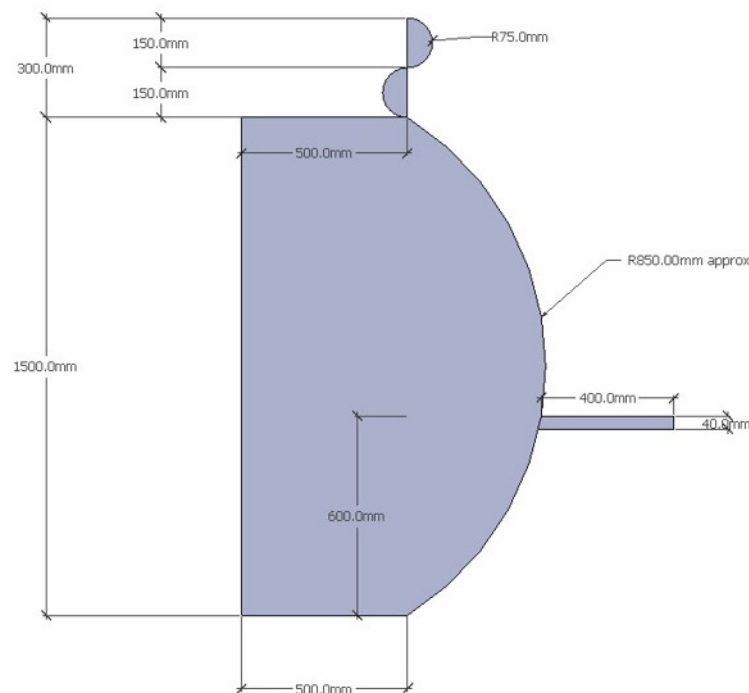

Figure 94. Large Planter dimensions
- Using the dimensions as shown in Figure 94, draw the profile of the large planter.